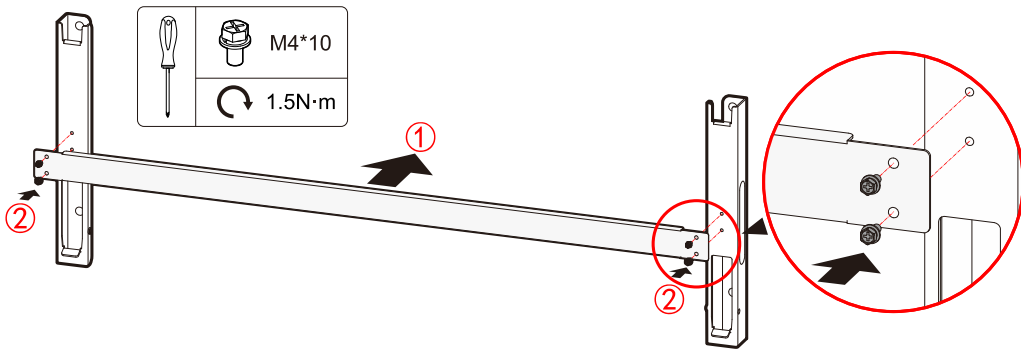

Figure3-18 Assemble installation holder
Step 1 Use the equipped four M4*10 combination bolts to fix the installation holder with the joint lever, as shown in Figure3-18.